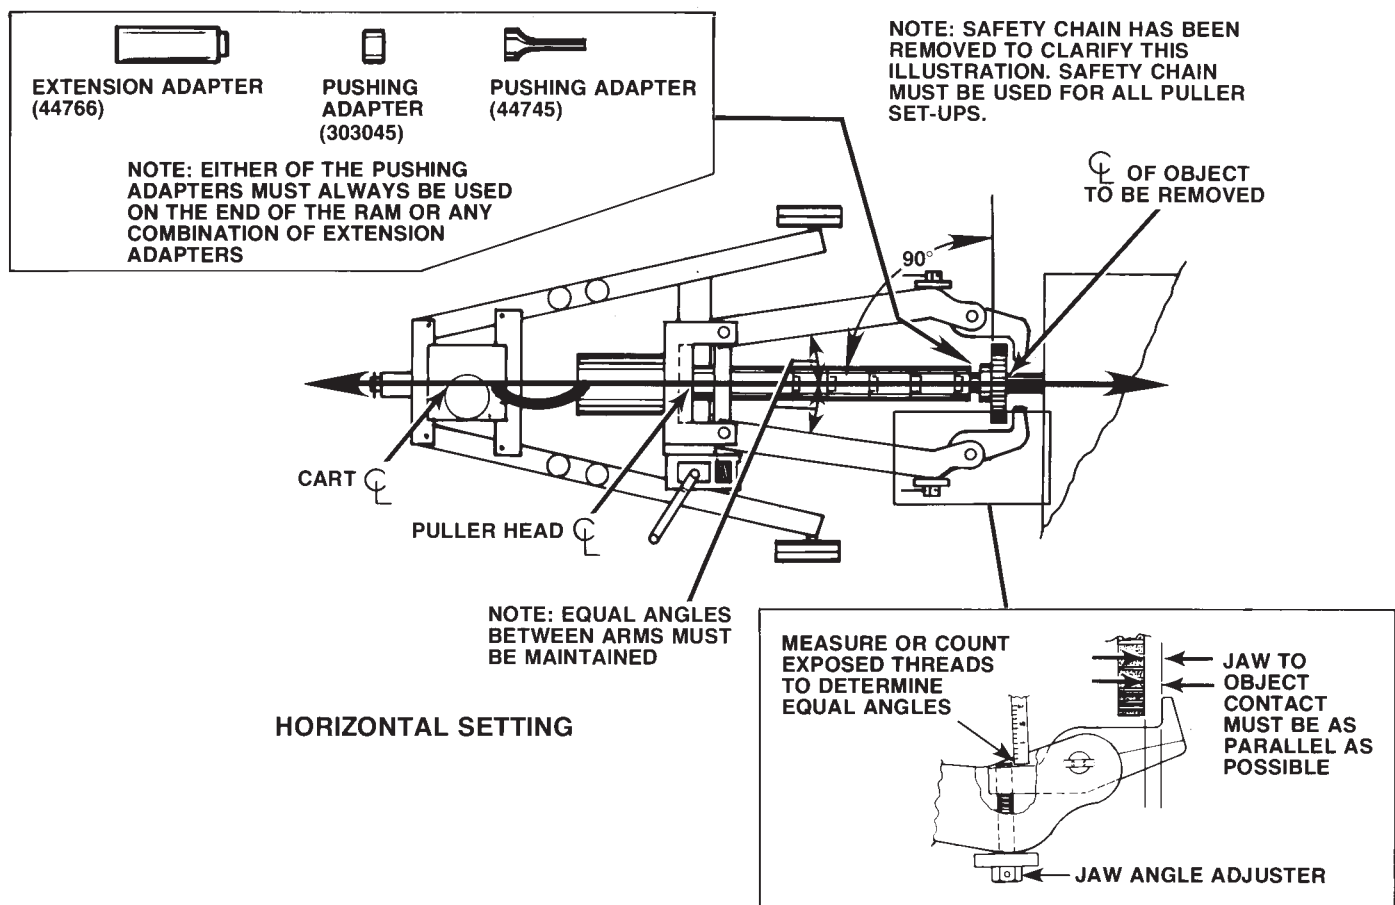

FIGURE 12
HORIZONTAL SET-UP: See Figure 12
1. Adjust the horizontal by positioning the puller cart as shown in Figure 12. The centerline of the object being removed must be at a 90° angle to the flat surface of the jaws and on the same centerline as the puller cart and the puller head.
JAW and ARM ADJUSTMENT: See Figure 12 Inset
1. Move the puller arms inward to a minimum width of 15” or outward to a maximum width of 48”. In all adjustments with the arms, maintain equal angles between the arms as shown in the Figure 12 inset. **Note: If the jaw contact area is flat and even on the object being pulled, an equal amount of threads visible on each screw shaft would indicate an equal angle between both arms.**